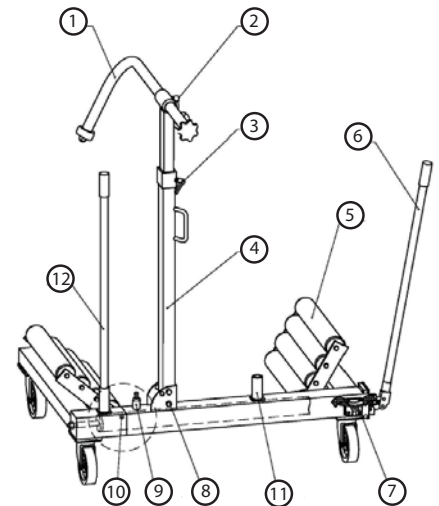

Figure 1
- Refer to figure 1 on page 2. The support arm (#4) and clamp support arm (#1) are only to be used to balance the wheel, NOT to carry a load.